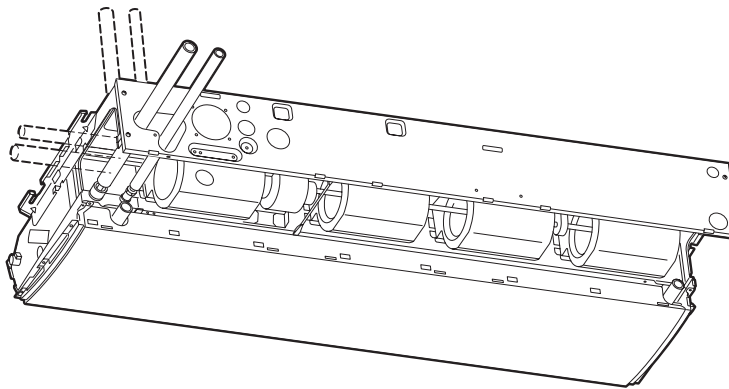

Fig. 3-78b
- * If the drain hose is routed through the left side, refer to Fig. 3-78b, and follow the procedure above to install the hose. Rettach the rubber stopper that was earlier removed onto the right side.